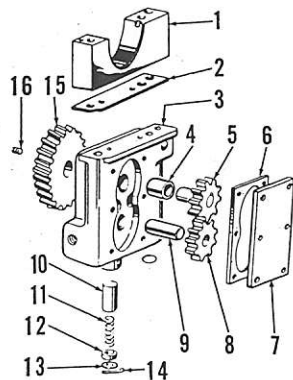

Fig. 50—Exploded view of engine oil pump and associated parts typical of Continental gasoline models.
Shims (2—Fig. 50) control the backlash of oil pump drive gear (15). Recommended backlash is 0.004-
56. The plunger type pressure relief valve (10 through 14—Fig. 50) is